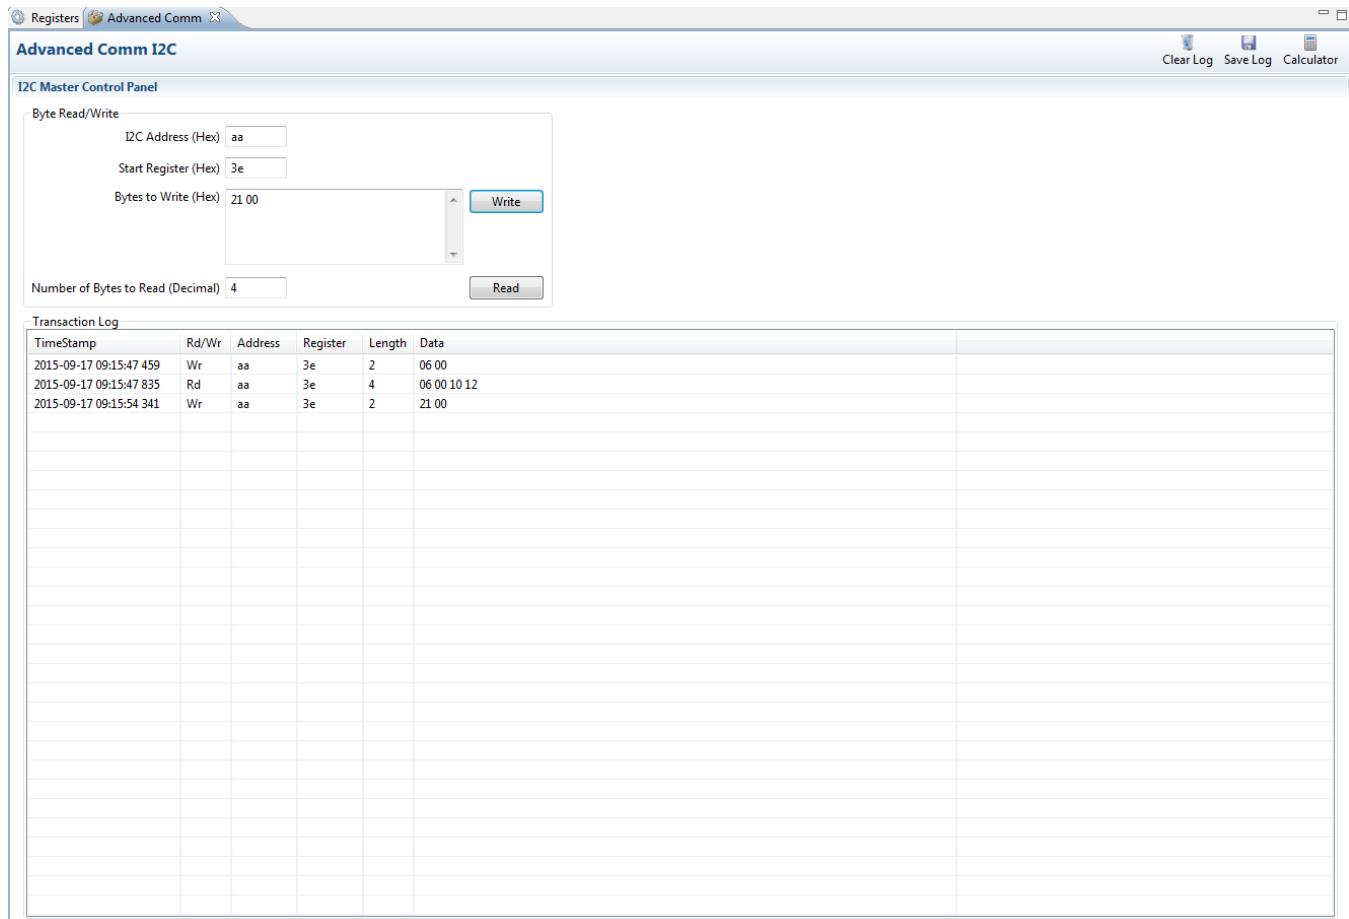

Figure 10. Advanced Comm I²C Screen
Press the **Advanced Comm I²C** button to select the **Advanced Comm I²C** window. This tool provides access to parameters using I²C and Manufacturing Access commands. See Figure 10. The transaction log screen shows the history of sent commands.
- Write to mac address 3e Command 06 00 (see Figure 10).
- Write to mac address 3e command 21 00 (see Figure 10).